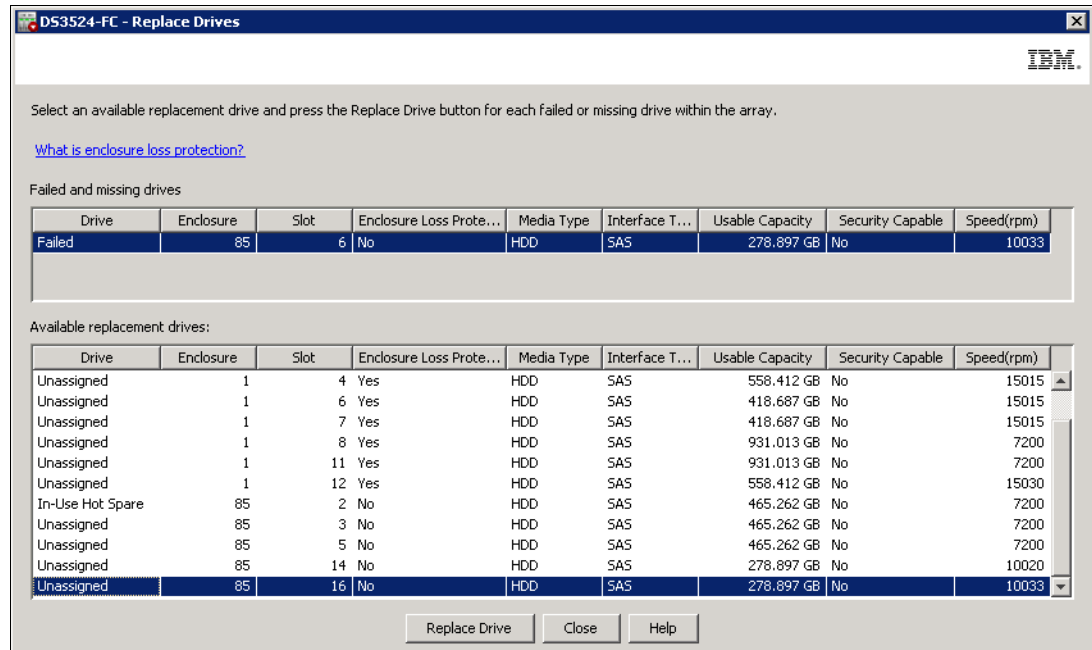

Figure 10-13 Replace Drives - Select disk
2. The list of eligible replacement disk drives appears in the window (Figure 10-13 on page 268).
You also have a choice to select the In-Use Hot Spare drive as a replacement drive (see Figure 10-13). If this hot spare disk drive is defined and is in use by the array with a missing or failed disk, you have to wait until the DS3500 controller reconstructs parity of all the logical drives in that array.
4. Click the **Replace Drive** button to start the operation. The confirmation window appears. Click **OK** and a new updated window like Figure 10-13 shows any remaining missed or failed drives to replace. Continue with the replacement or click **Close** to finish.